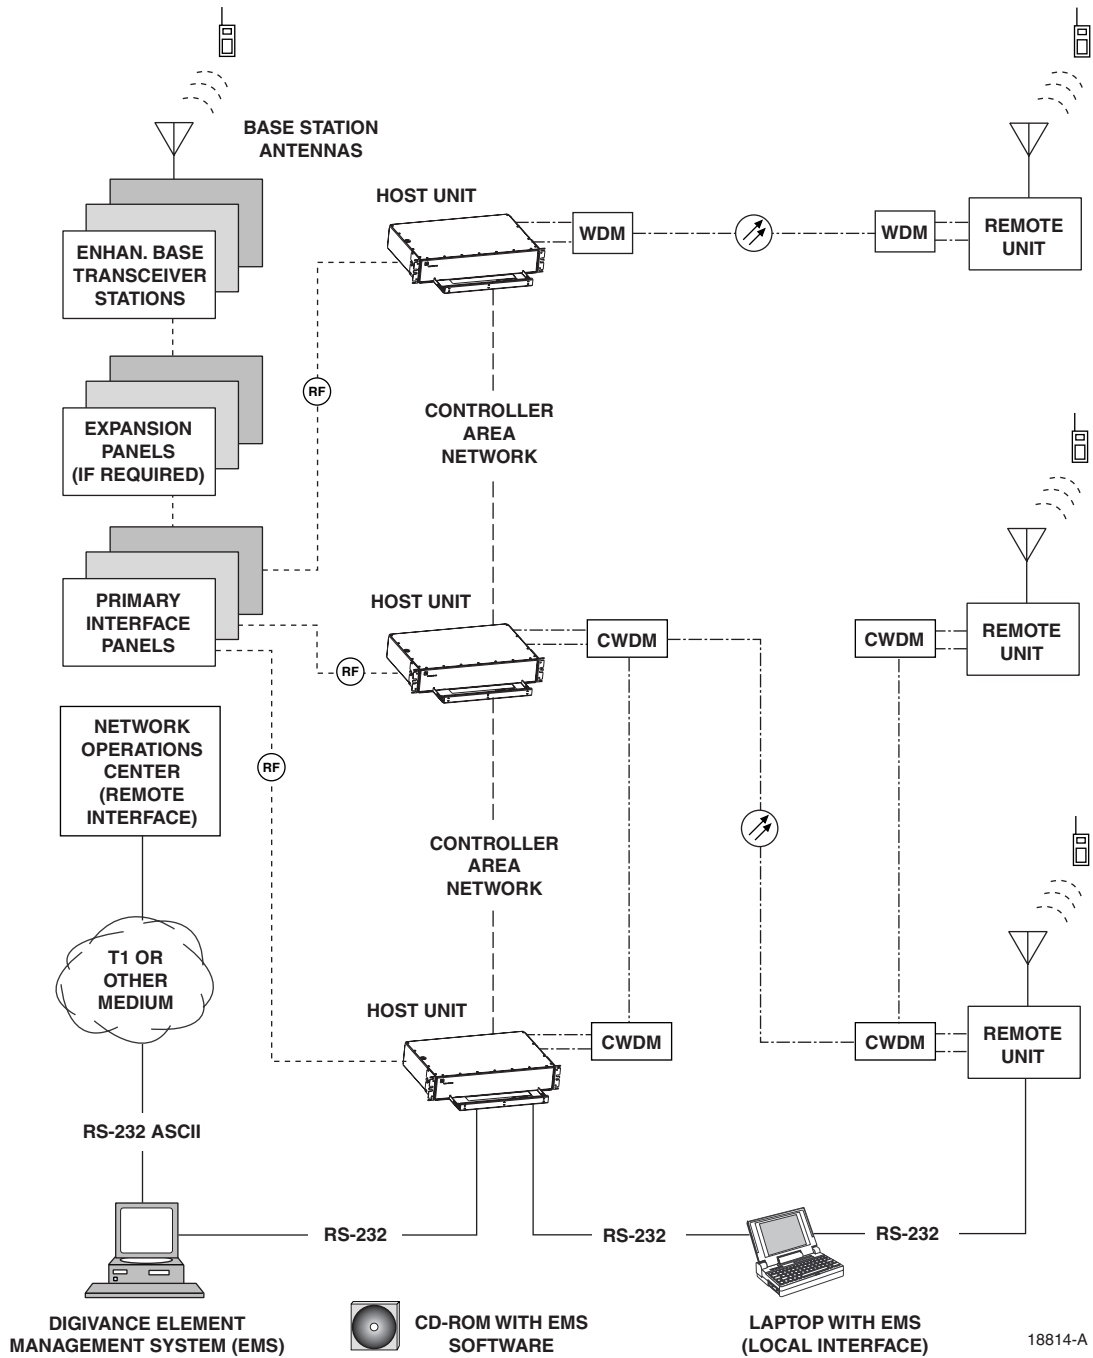

Figure 1-1. 20 Watt System Overview Diagram
The basic components of a Digivance 20 Watt System and their functions are shown in Figure 1-1. A 20 Watt system consists of the Host Unit (HU) and the Remote Unit (RU). Both an indoor and an outdoor remote unit are available. Control and monitoring functions are provided by the Digivance Element Management System (EMS), a PC-based software program. In addition, various accessory items are available separately including a passive Wavelength Division Multiplexer (WDM) system, an active Coarse Wavelength Division Multiplexer (CWDM) system, primary interface panels and expansion panels (for interfacing multiple HU’s